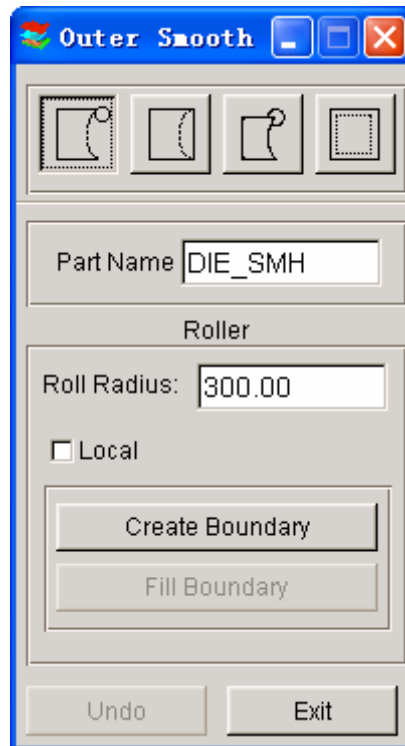
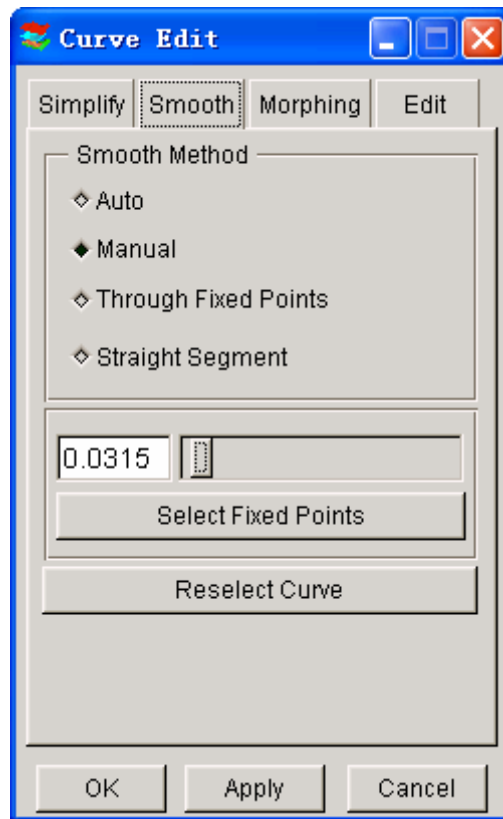

Figure 6.1.36 Roller
Figure 6.1.41 Curve Edit
Once this function is selected, a dialog window as shown in Figure 6.1.36 will be displayed. The default radius of the cylinder is 300 in the ROLL RADIUS window.
- After two points are selected, a dialog window will be displayed as in Figure 6.1.36. There are three options in this window to allow the user to morph and smooth the boundary line. Figure 6.1.41 shows the smoothed boundary.